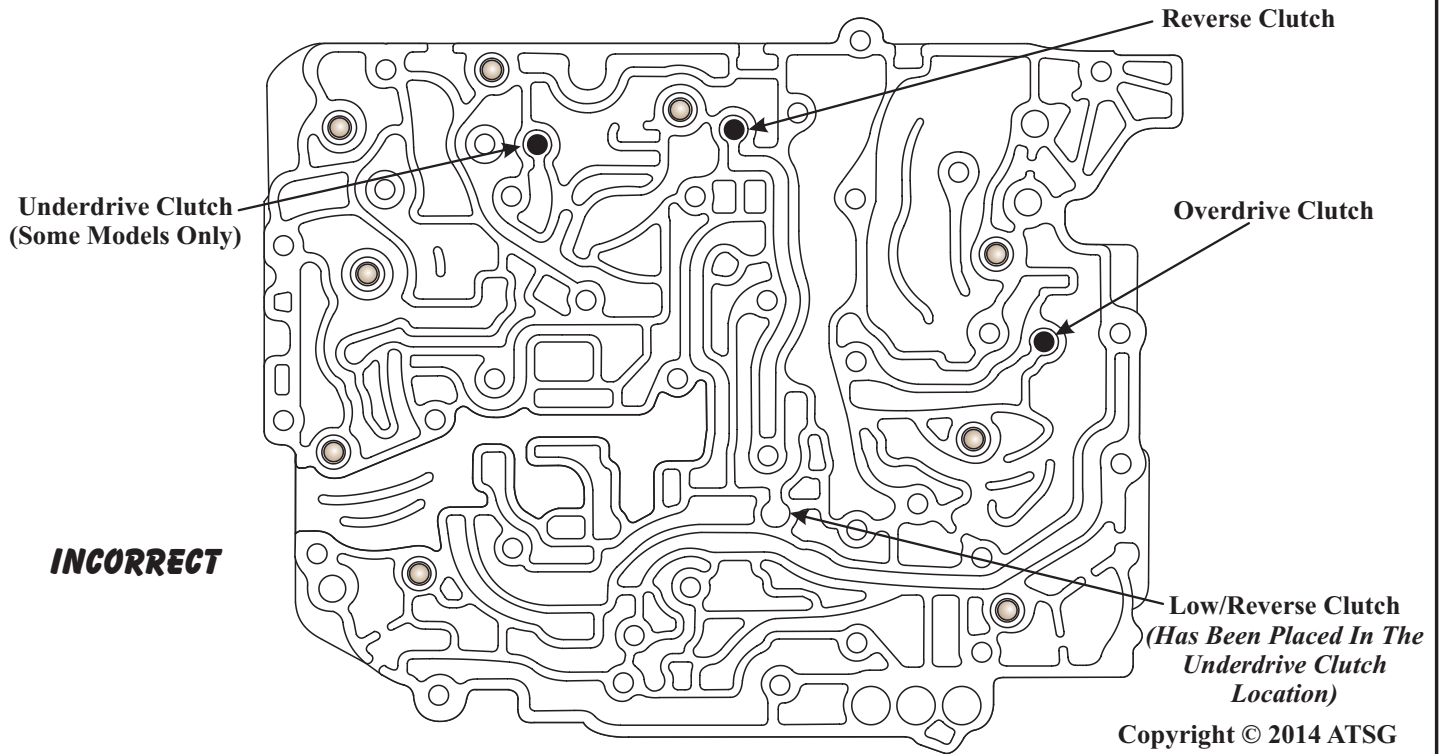

Figure 3
- (1) The rebuild technician mistakenly placed the Low/Reverse Clutch checkball in the Underdrive Clutch location, Figure 3. Since the Low/Reverse Clutch is applied in first and second gear, and must release for a shift into third gear as seen in the clutch application chart in Figure 4, the missing Low/Reverse Clutch checkball caused the Low/Reverse Clutch to remain ON resulting in a severe bind-up on the 2-3 shift as shown in the hydraulic schematics in Figures 5, 6 and 7.